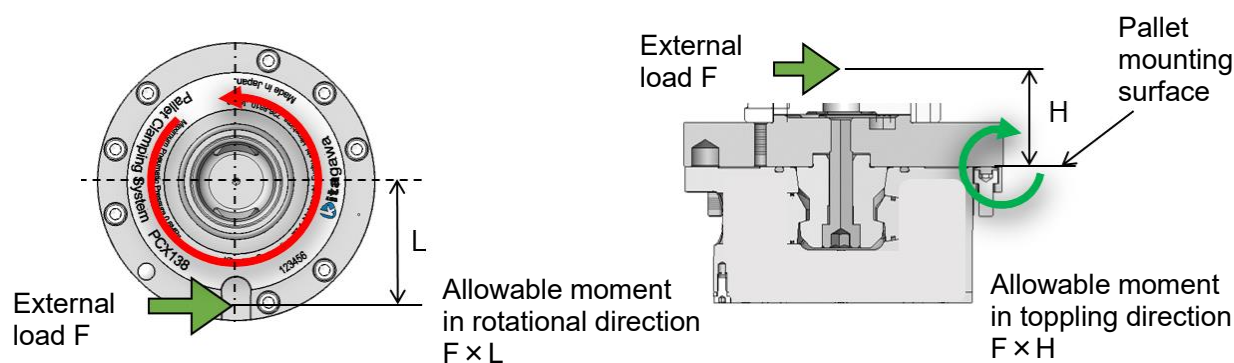

Figure 5 Allowable moment model of the pallet
*2 : Refer to Figure 5 and set the machining conditions taking into consideration the appropriate safety factor. External load F is machining load, gravity, load applied to the clamp jig, etc.